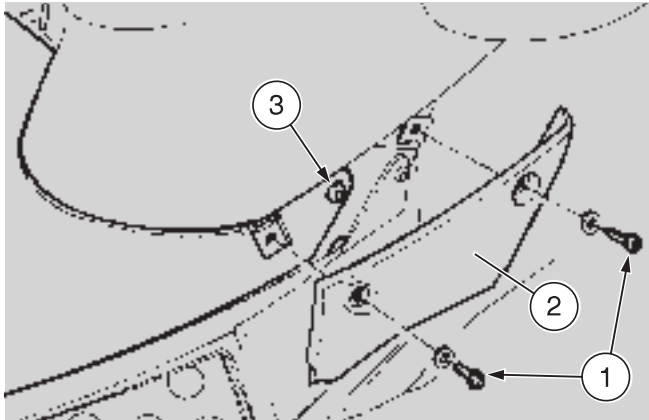

Fig. 39
- ◆ ★ Unscrew and remove the two screws (1-Fig. 39).
- ◆ ★ Remove the cover (2-Fig. 39).
- ◆ ★ Unscrew and remove the screw (3-Fig. 39).